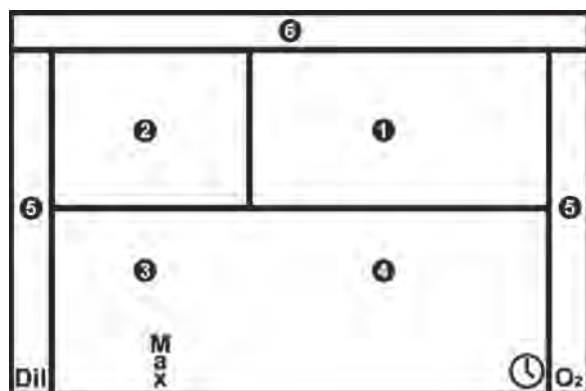

Figure 3-2. LCD display layout.
The next most important region is the upper-left part of the screen, where the current PO_2 value is displayed (2 in figure 3-2). The lower half of the screen includes basic information about depth (on the left side, 3), and time (on the right side, 4). The left and right edges of the screen (5) include bar graphs that represent the current capacity of the diluent (left side) and oxygen (right side) cylinders, as a percentage of total cylinder capacity. Finally, the top edge of the screen (6) includes a bar graph that represents the current ascent rate of the diver. When the Poseidon MKVI electronics are started (via the wet switch, or when the battery is inserted into the unit), the LCD screen momentarily shows all elements of the display, as illustrated below. Each of these elements is described in detail below.